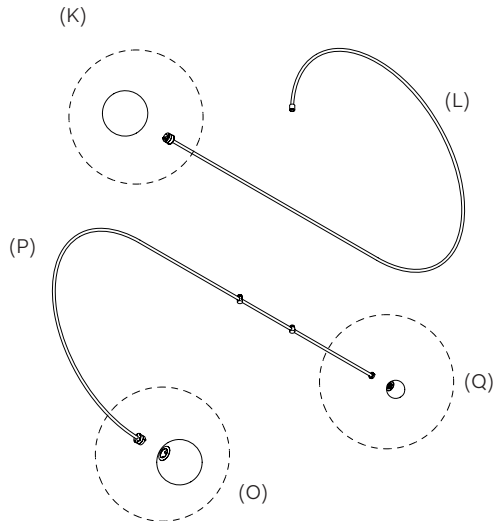
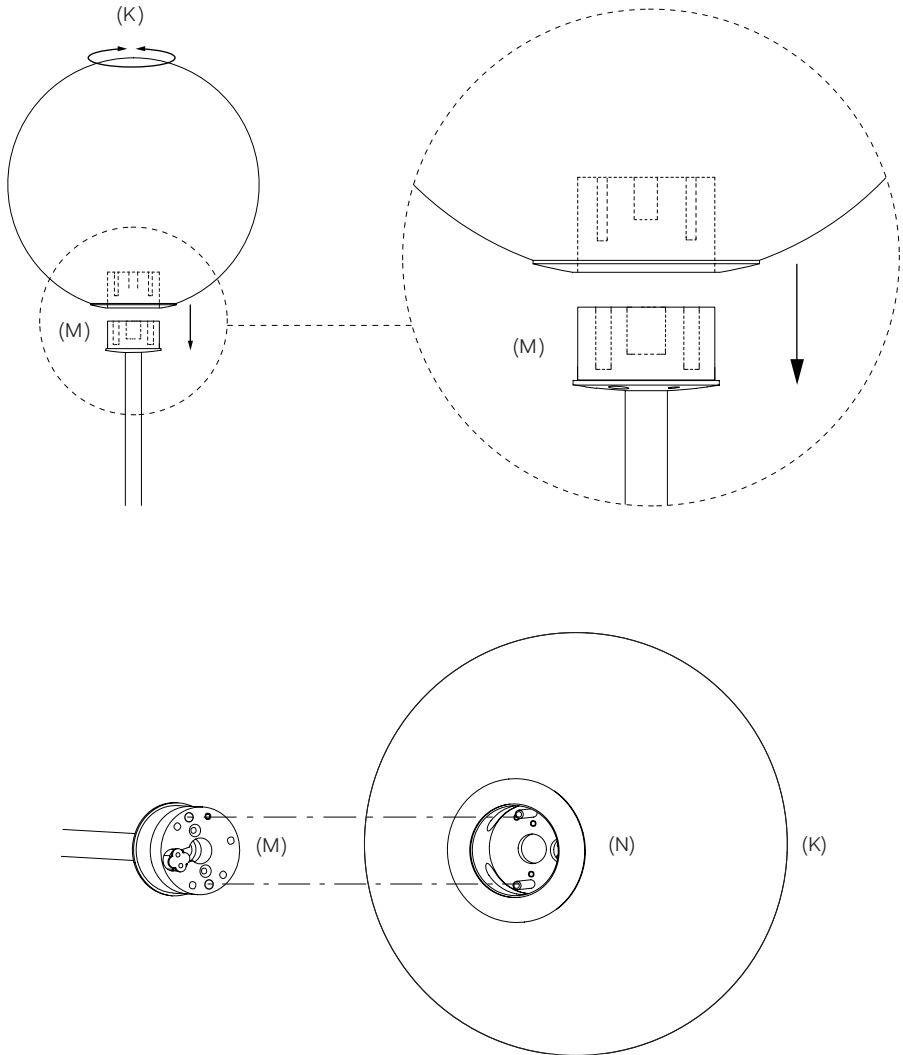

Fig. 13
Fig. 14
Secure the Large Glass Sphere 2 (K) with the supplied M2×20 screw and hex key, ensuring it is tight to keep the connectors flush. See Fig.13 and Fig.14